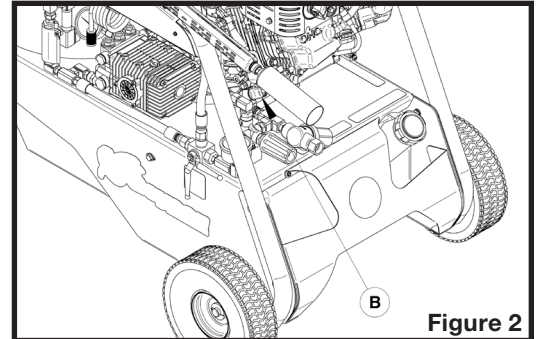

Figure 2
5. Unscrew the oil filler cap/dipstick (B on figure 2).